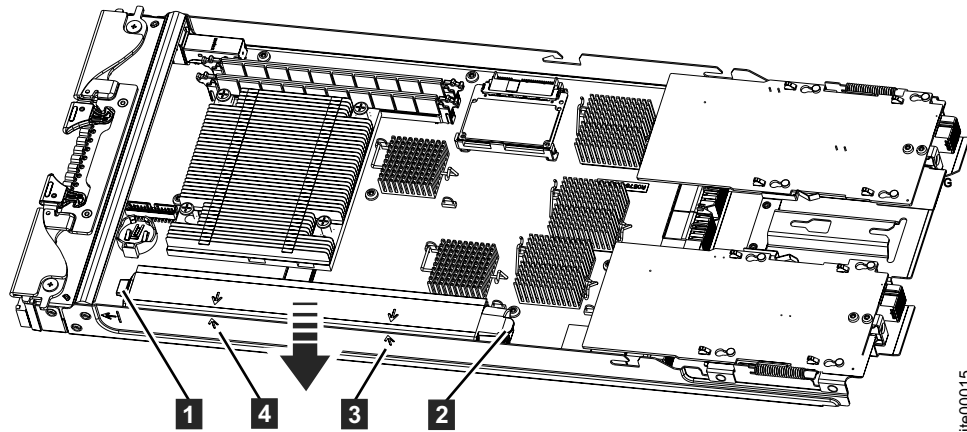

Figure 22. Installing the battery
8. To position the battery for installation, align the alignment arrows **3** and **4** on the battery with those on the canister. See Figure 22 on page 40. The bottom of the battery has positioning pins that protrude through holes in the system board when it is fully seated.